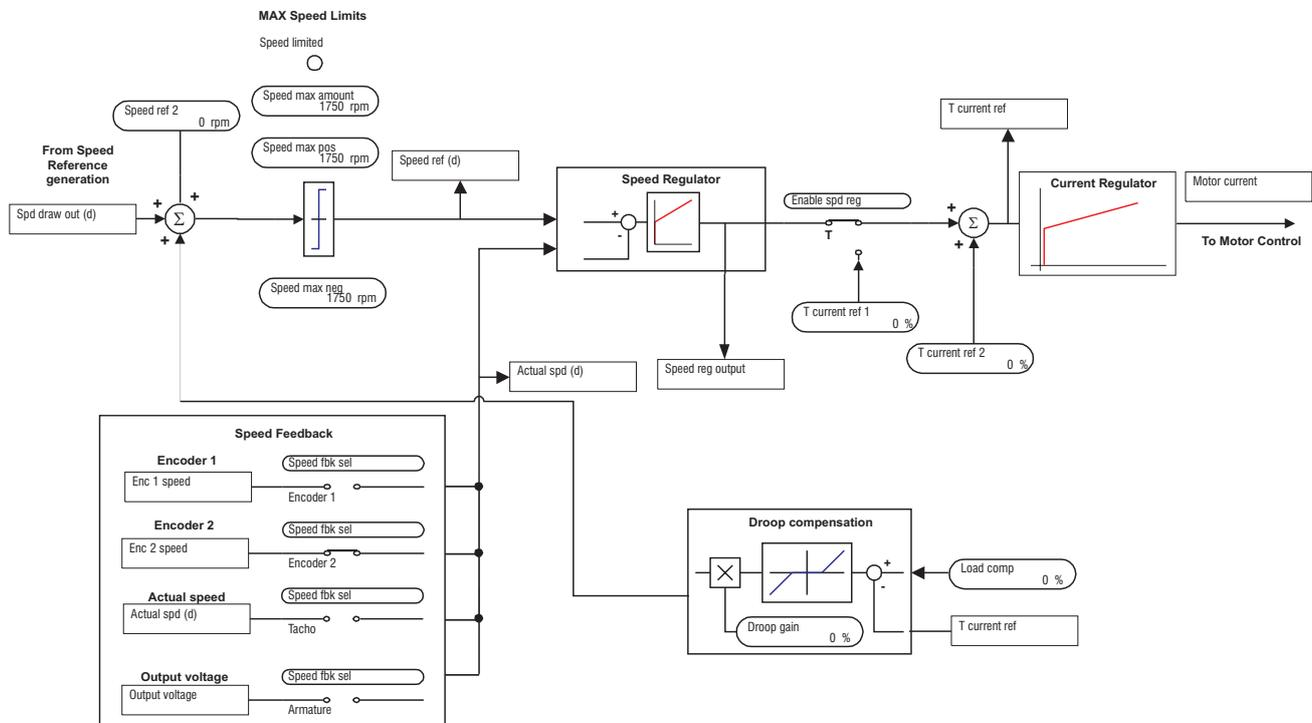

Figure 5.4.2.1: Speed reference
- Speed max amount** Defines maximum speed in both directions of rotation (DCV104). This parameter limits speed controller input and takes into account both the reference values from the ramp and slip compensation (see fig. 5.4.2.1) If the parameter **Speed max amount** is changed, the parameters **Speed max pos** and **Speed max neg** are set to the same value. If either of these values is later changed, the last change is the valid one. The value to be entered depends on the factor function.